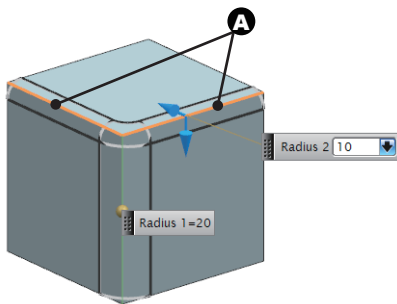

Fig 6-18 Edges to Select
9. Select the two edges designated by **A** in Fig 6-18.
Why is the **Tangent Curves** curve rule not applied when selecting edges in Fig 6-18?